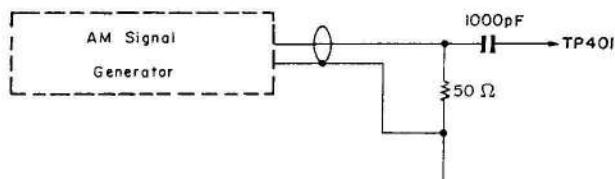

Fig. 10
- (a) Connect a AM Signal Generator to TP 401 as follow, Fig. 10.